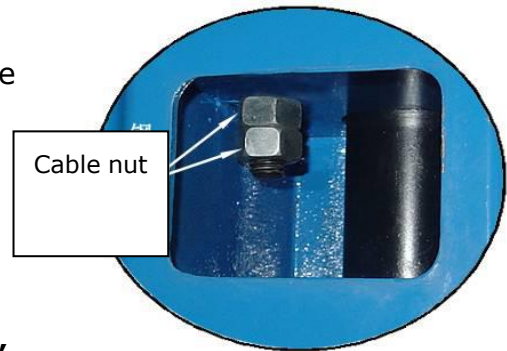

Fig. 39
1. Adjust synchronous cable (See Fig. 39)